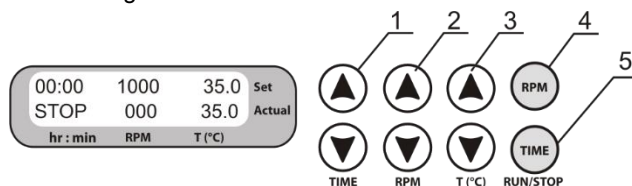

Figure 2. Control panel
- 5.4.1 **Setting time (TIME).** Using the ▲ and ▼ TIME keys (fig. 2/1) set the required working time interval in hours and minutes (increment 1 min).
- 5.4.2 **Setting speed (RPM).** Using the ▲ and ▼ RPM keys (fig. 2/2) set the required speed (increment 10 rpm).
- 5.4.3 **Setting temperature (T, °C).** Using the ▲ and ▼ T (°C) keys (fig. 2/3) set the necessary temperature (increment 0.1°C).
- 5.5.2 Press the **RPM RUN/STOP** key (fig. 2/4). The platform will start rotating and the timer indicator will start counting the time interval (with 1 min precision).
- 5.8 If required, there is possibility to restart the timer when it is running. Press the **TIME RUN/STOP** key once (fig. 2/5) to stop the timer. Press the **TIME RUN/STOP** key again to restart the timer.
-  **Caution!** At the end of the set time period the platform movement is stopped automatically, but the heating can be stopped only manually by reducing the temperature using the **▼ T (°C)** key (fig. 2/3 - lower button) till the OFF sign appears in the upper line (Set) of the display